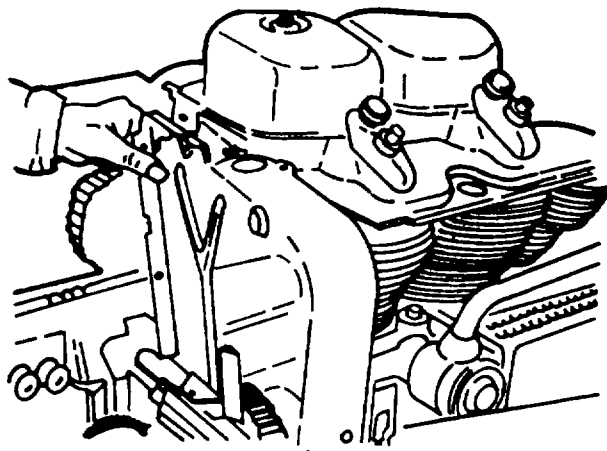

Figure 4-36. Rear Vertical Plate
- z. Secure upper cover plate and rear vertical plate (figure 4-36).